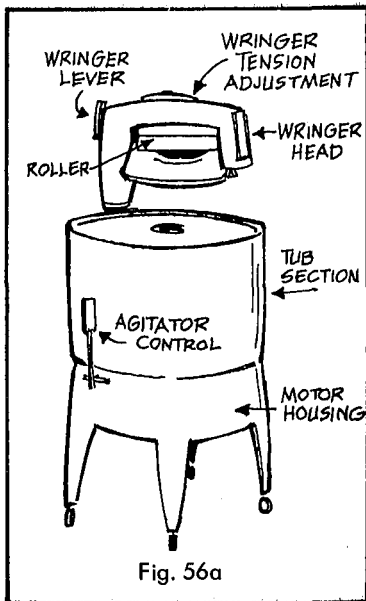

Fig. 56a
II. Wringer Does Not Operate Properly (Wringer Type, Fig. 56a)
Remedy: Adjust for correct pressure or tension. Fig. 56a. There are other wringer troubles of a mechanical nature that cannot be repaired in the home. The wringer can be easily lifted from the machine and taken for repair to a serviceman or manufacturer.
1. Lubrication: With most electrically driven washers, lubrication has been provided at the factory for the life of the washer. However, examine the wringer head and motor (Fig. 56a) for oil holes. Oil motor monthly, with 2 or 3 drops of electric motor oil. Oil casters frequently.